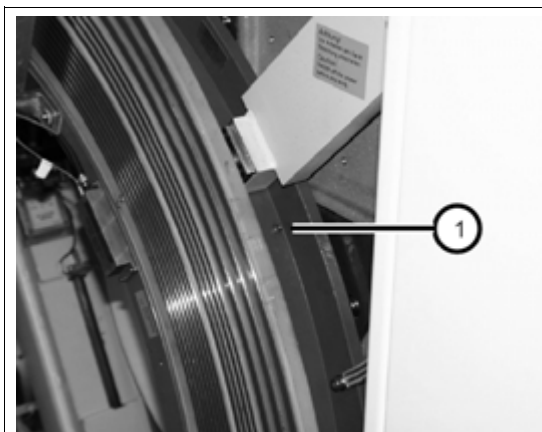

Fig. 25: Grease fitting, upper right side in the back of the gantry
- Connect the grease gun to the lubrication fitting (1/ Fig. 25 / p. 43).